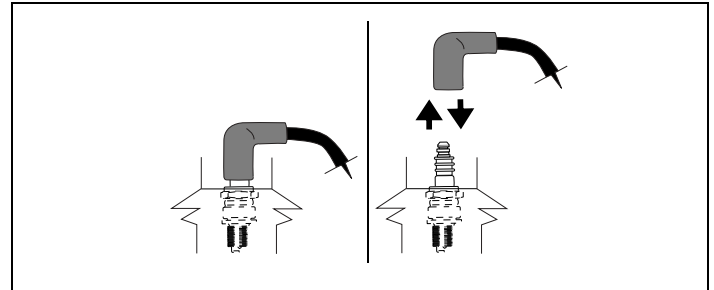

Figure 35. Disconnecting/Connecting Spark Plug
13. Carefully disconnect spark plug wire from grounding post, if provided. See Figures 35 thru 37.